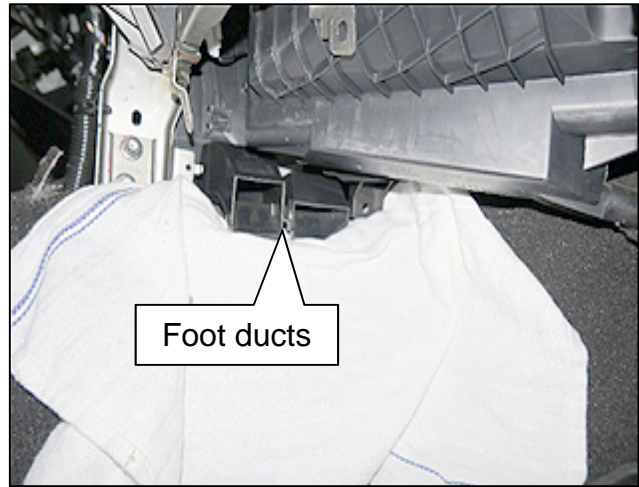

Figure 6
4. Place a shop towel in the location shown in Figure 6, to assist in directing any dropped screws to the floor board.